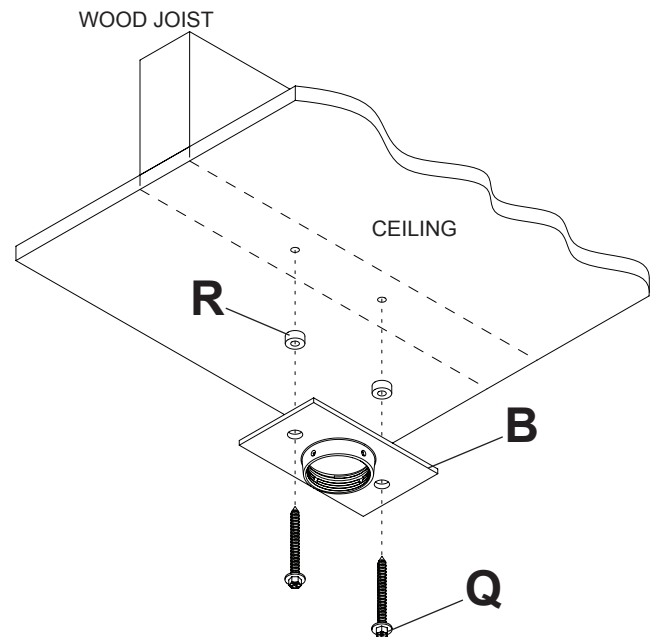

fig. 1.2
**NOTE:** For optional cord management, install two spacers (**R**) between ceiling plate (**B**) and ceiling as shown in figure 1.2.